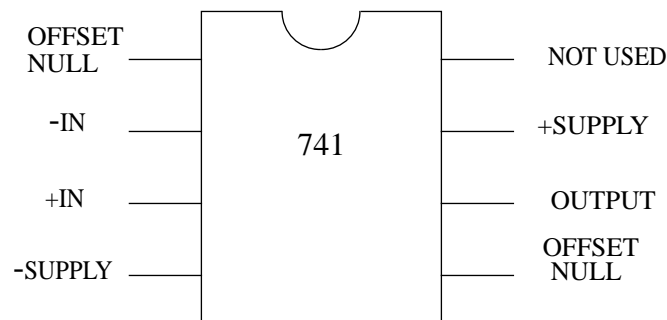

Figure 3: pin assignments for the 741 op-amp.
- (4-4) Following your design from Pre-Lab Exercise 4-3, construct the digital-to-analog converter using a 741 op-amp. Figure 3 shows the pin assignments for the 741 op-amp. Do not yet connect the converter data-bit inputs to the data-bit outputs from the memory. Rather, adjust the offset voltage v_{OFF} to 0 V, and connect each input individually to the 5-V power supply while leaving the other inputs grounded. Then, measure v_{DAC} with the multimeter, and compare the measurements to the data in the table prepared during Pre-Lab Exercise 4-4 to determine whether or not the converter is functioning properly.